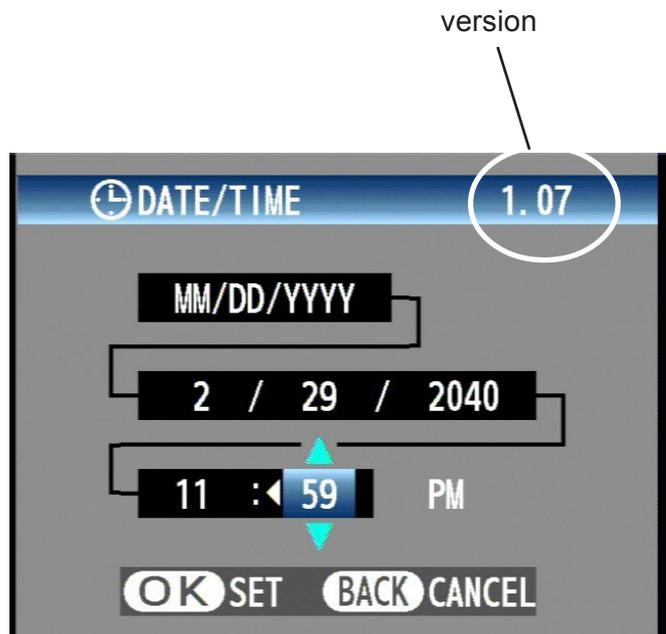

fig.2
6. The version of the farmware is displayed in the upper right of LCD only while the shutter button is being done (Fig.2).